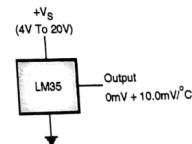

Fig. 10.6.1 : Circuit diagram for the LM35 basic temperature sensor (+2°C to +150°C)
- As shown in the Fig. 10.6.1 the connection for LM35 is very simple. Also the output scale is linear with a change of  $10\text{mV}/^\circ\text{C}$ .